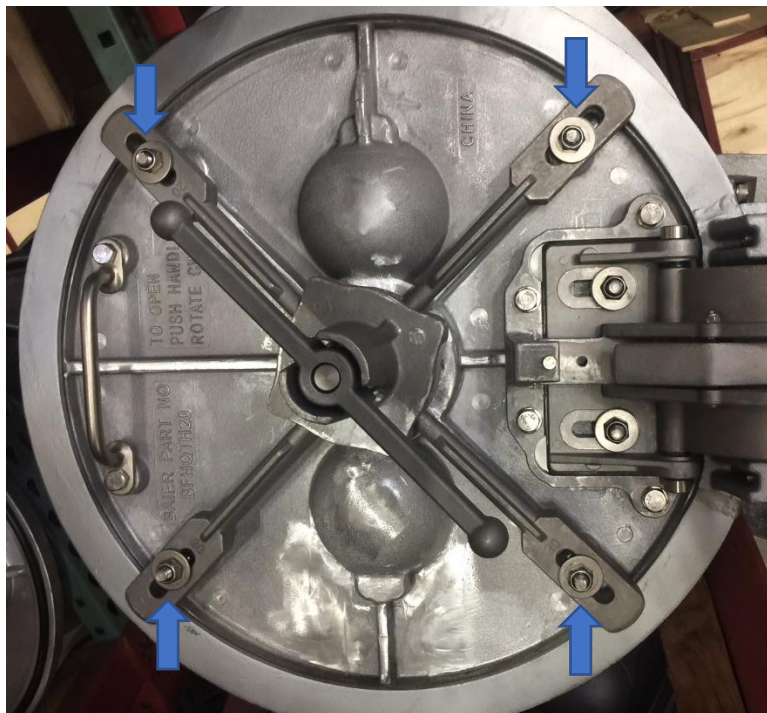

Figure 4
- i. The Dog Arms are factory set; however, tension can be altered by adjusting the self-locking nuts as shown by blue arrows in Figure 4.